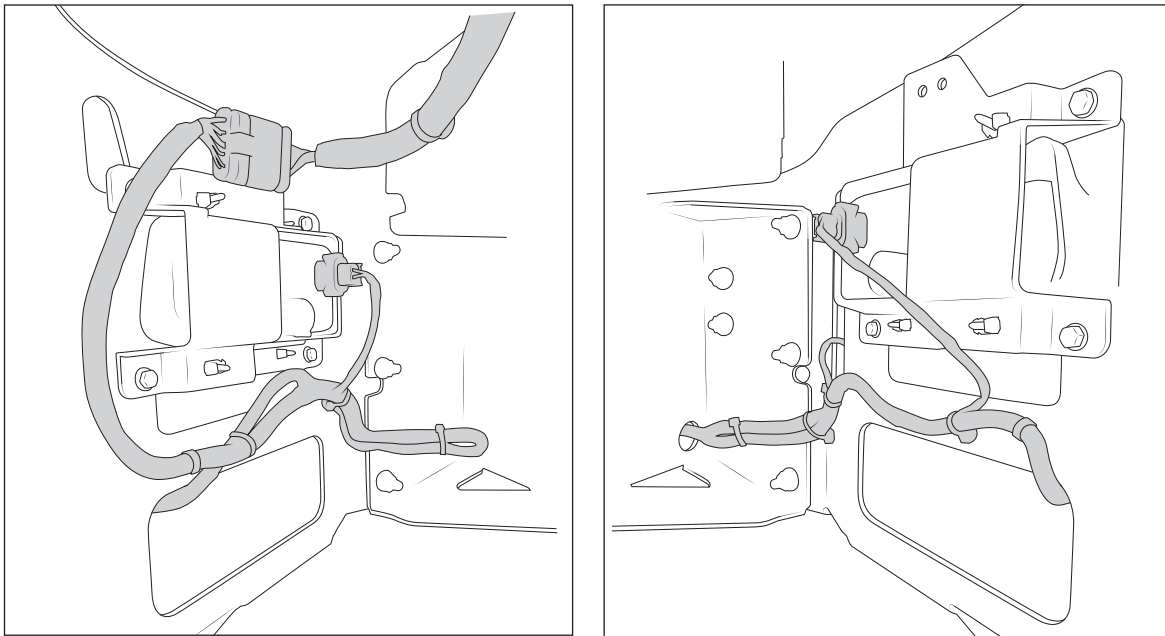

Figure 33
4. Connect the factory lighting and park sensor harness (fig. 33).